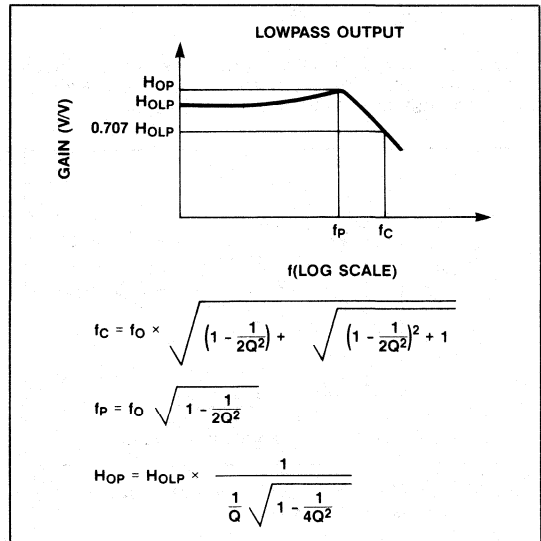

Figure 13. Second-Order Lowpass Characteristics
**LOWPASS** See Bandpass text. (Figure 13)